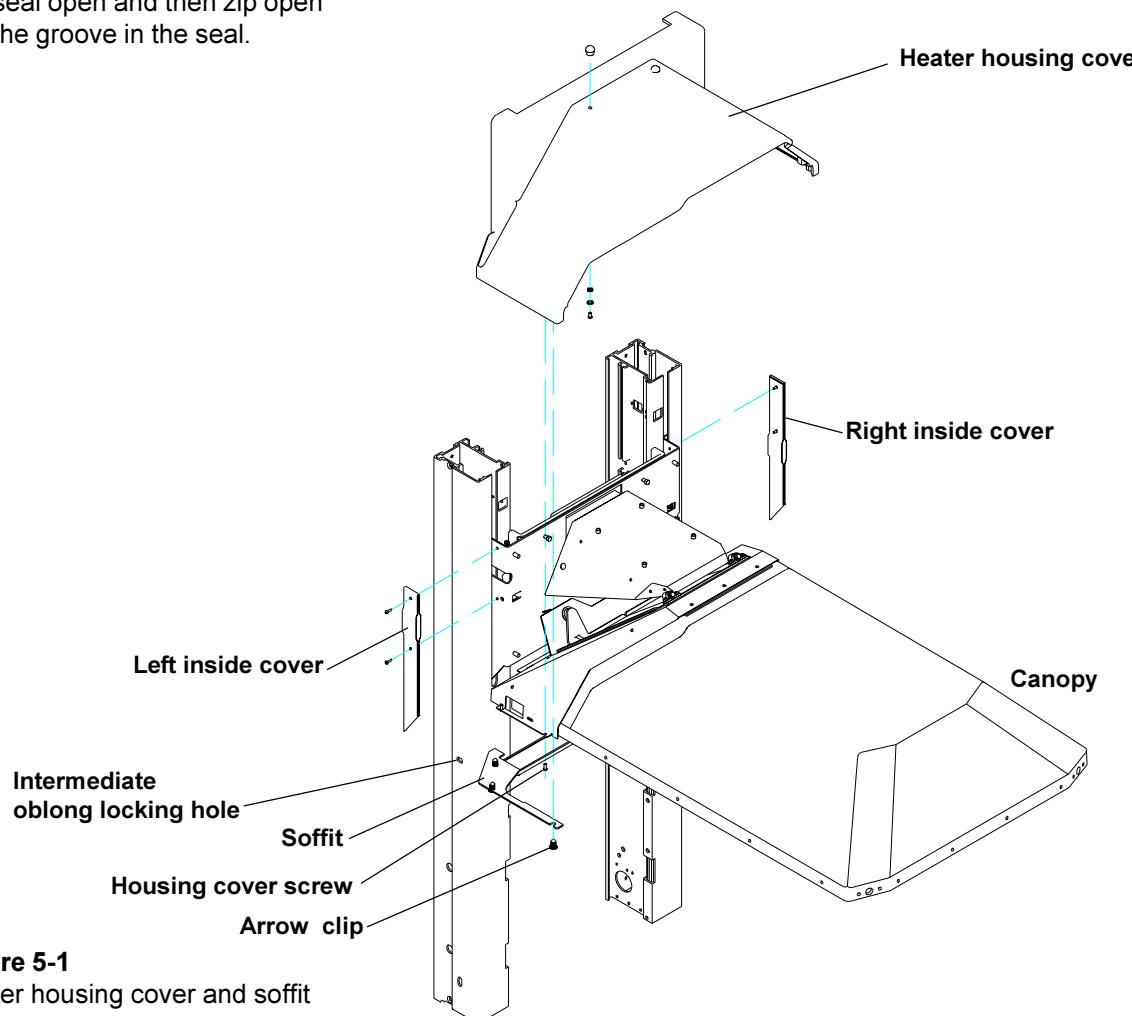

Figure 5-1
5.1 Canopy Removal for Replacement (Figures 5-1, 5-2 and 5-3)
5.2.1 Removing the right upright (motor side) (Figures 5-1, 5-4, 5-5, 5-6, 5-7 and 5-14)
5.22 Removing the left upright (Figures 5-1 and 5-5)
2. Using a small straight blade screwdriver, remove the 6 arrow clips that secure the soffit beneath the rear of the canopy (See Fig.5-1) and remove the soffit.